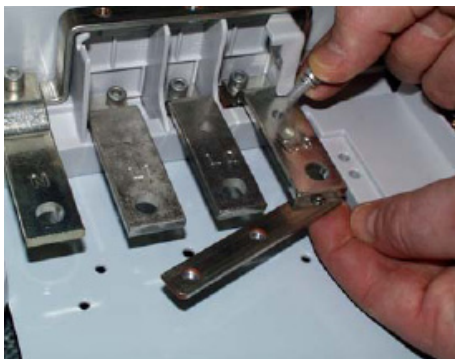

Fig 17
- Slide the single phasing link under the incoming copper connections (marked L1,L2 & L3). (Fig 17)